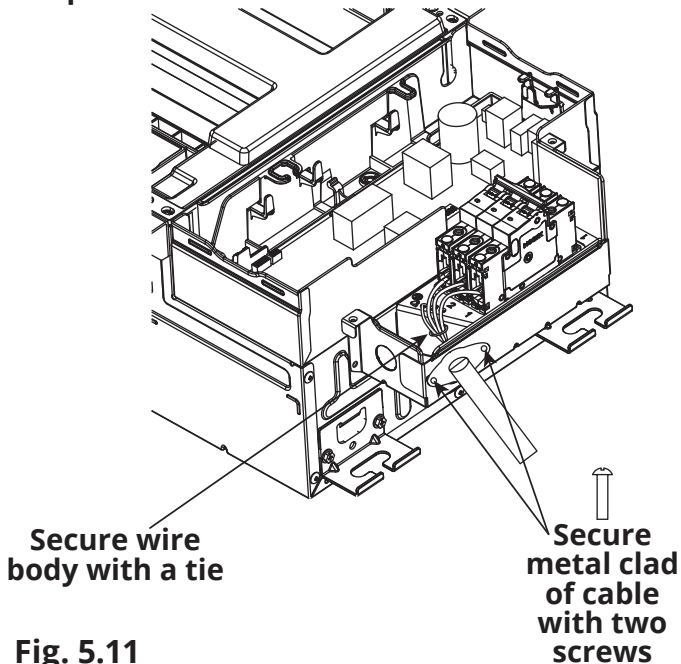

Fig. 5.11
- Secure the metal clad of the DIYPRO™ Cable to the circuit breaker box with two ST3.9*10 screws. Then, secure the wire body within the circuit breaker box with a tie. Please see Fig. 5.11 below.